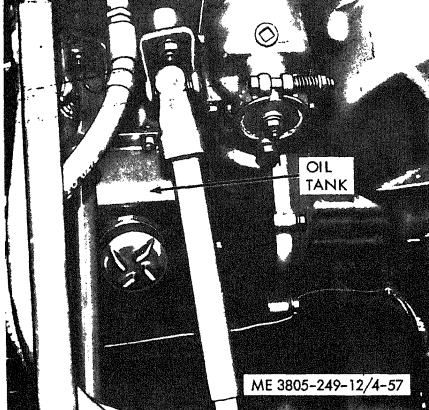

Figure 4-57. Hydraulic oil tank.
a. Removal. Refer to figure 4-57.
(1) Drain the tank.
(2) Disconnect the hydraulic lines at the tank. Cap or plug openings.